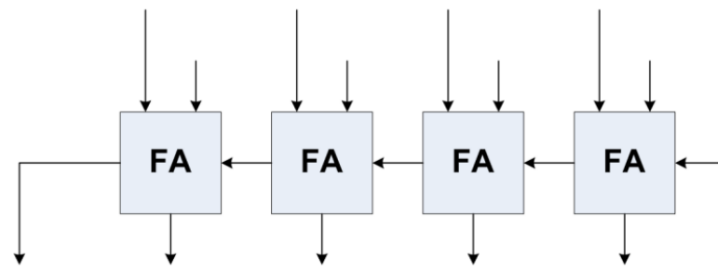

Figure 3: Ripple Carry Adder
2. Design your RCA module so that it contains 4 FA circuits as shown in Figure 3.